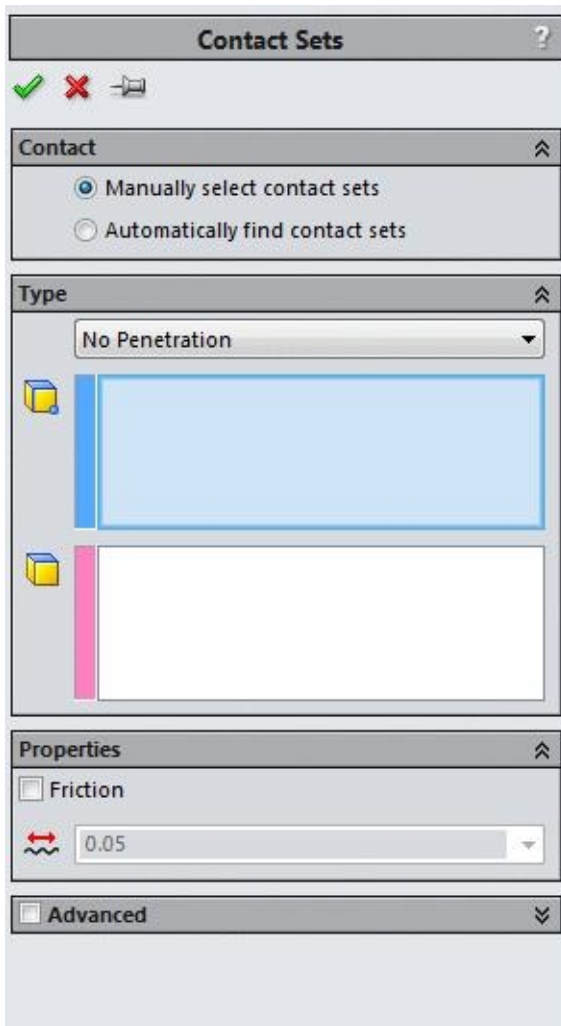

Figure-21. Contact Sets PropertyManager
- Again, click on the down arrow below the **Connections Advisor** button and click on the **Contact Set** button. The **Contact Sets PropertyManager** will be displayed as shown in Figure-21.